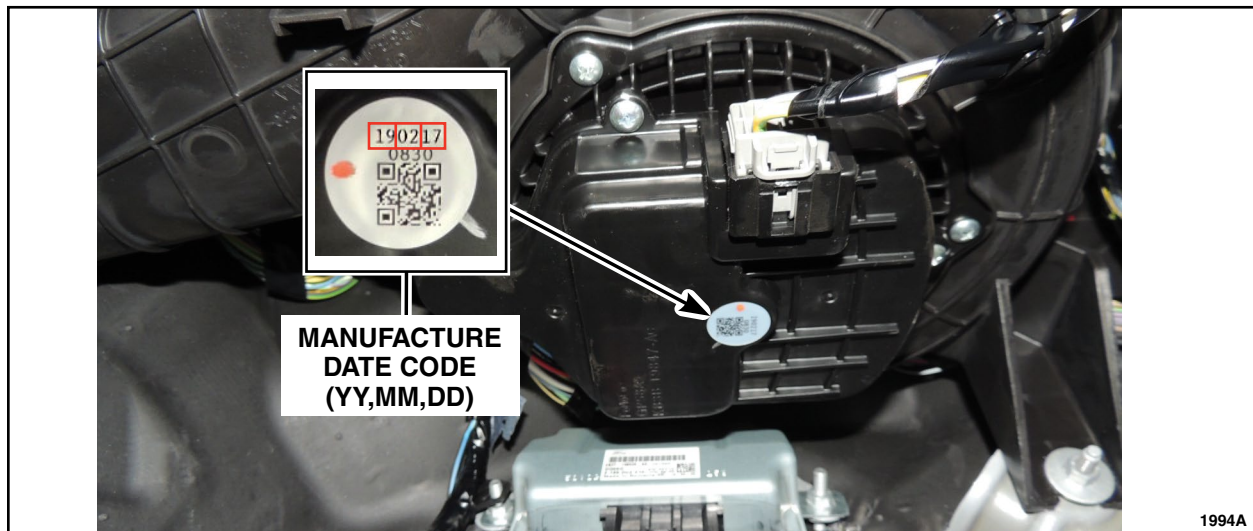

FIGURE 1
1. Using a camera, take a photo of the HVAC blower motor build date code. Review the date code and save digital photo as it will be needed to order parts and obtain approval for rental vehicles. See Figure1.